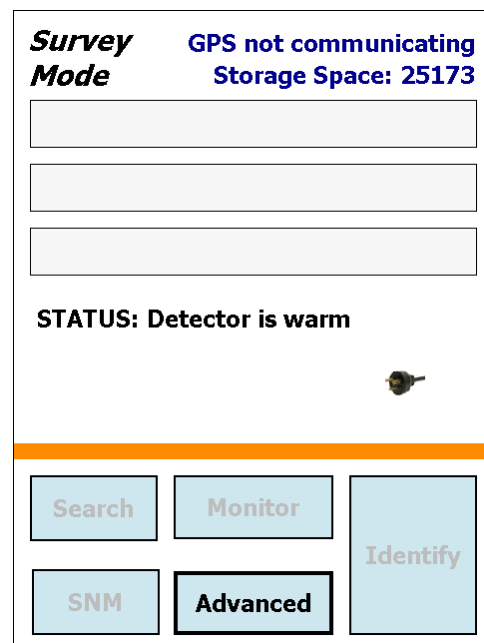

Figure 13. The Display at Startup.
- Note the **Status** indicator on the display. On startup (Fig. 13), it will read: